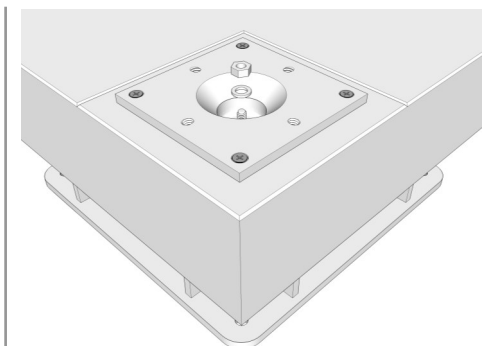

Fig. 45
21. Start with an End Post or Corner Post by aligning the base of the Post with the Mounting Plate (L) (Fig. 45).